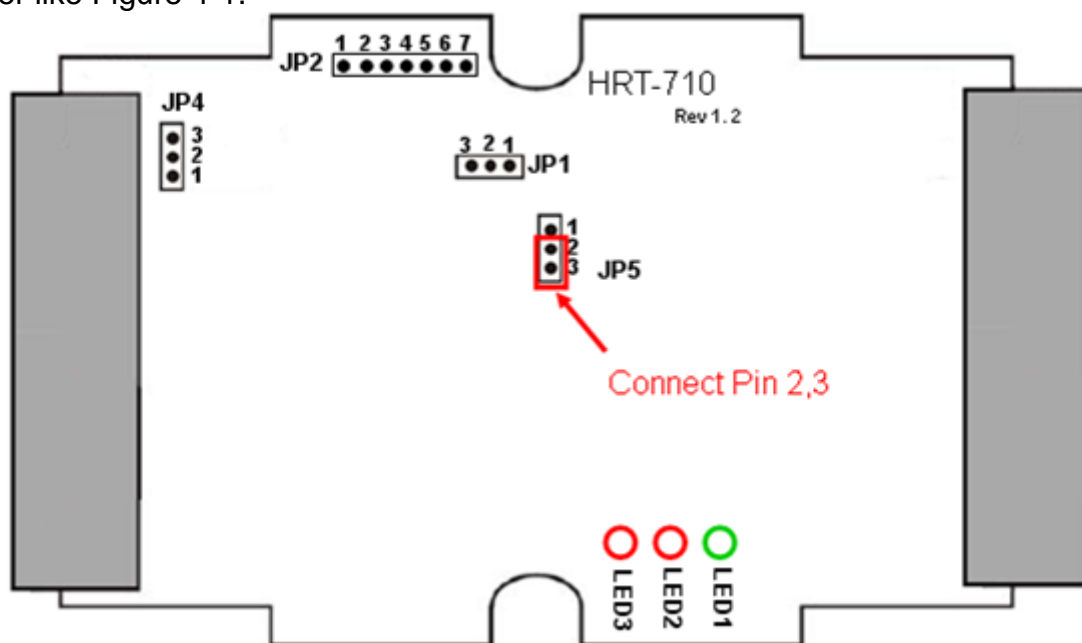

Figure 4-1 Connect pin 2 & 3 of JP5 together
- (1) Download the newest firmware of HRT-710. (Download from ftp://ftp.icpdas.com/pub/cd/fieldbus_cd/hart/gateway/hrt-710/firmware/)
- (2) Turn off the power and open the shell of HRT-710. Then connect the pin 2 & 3 of JP5 together like Figure 4-1.